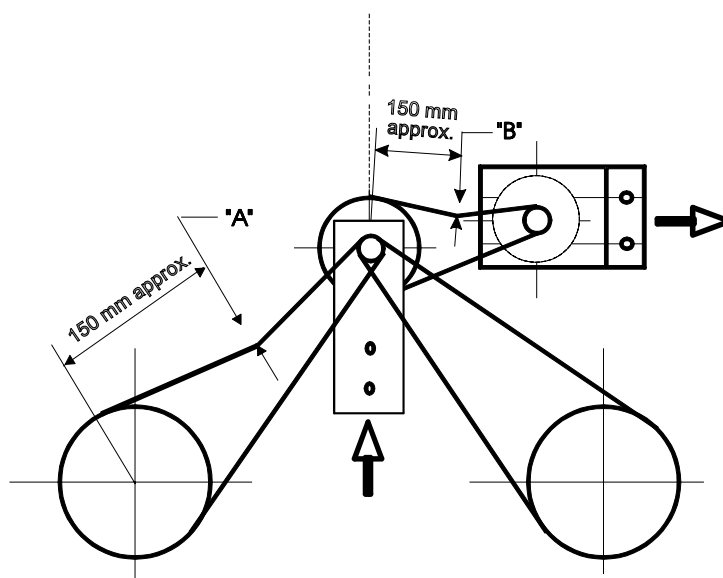

Figure 6-6. Adjusting Drive Belt Tension
- (a) Apply hand pressure on each of the main drive belts at approximately 150 mm (6 inches) from the center of the leadscrew pulleys, as shown at “A” in Figure 6-6. Deflection distances “A” and “B” are “free play” from the normal position to the point where the belt is firmly taut. The values for distances “A” and “B” are shown in Table 6-3.
- (b) Refer to Figure 6-6. Push the motor bracket in a direction away from the layshaft to apply tension to the motor belt, then lightly tighten the bracket screws.
- (c) Check the belt tension by pressing against the belt approximately 150 mm (6 inches) from the center of the layshaft pulley (Point "B" in Figure 6-6). The belt should deflect by the amount shown in Table 6-3.